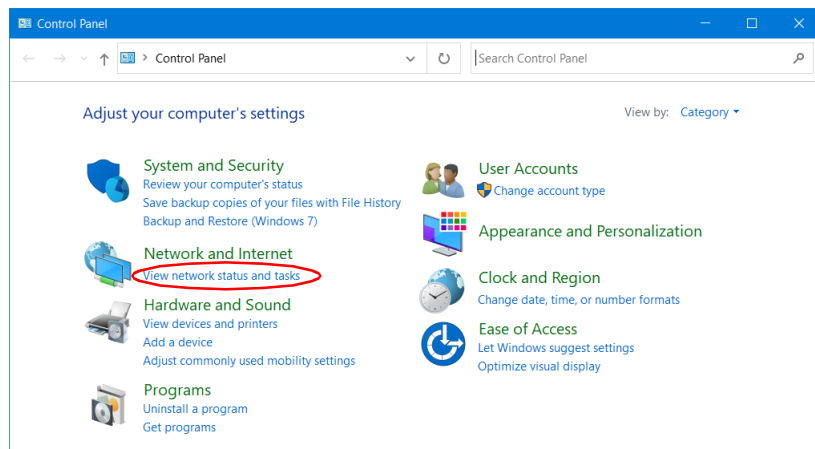

Figure B-1 Control Panel Window
STEP 2: In the *Control Panel* window, click **View network status and tasks** (Figure B-1).